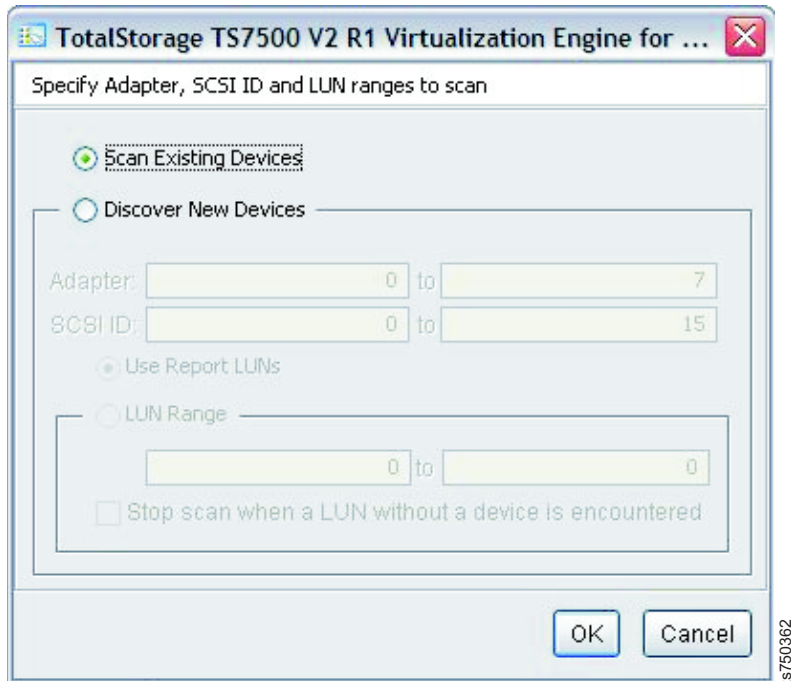

Figure 23. Scan existing devices
- \_\_\_ In the **Specify Adapter, SCSI ID and LUN ranges to scan** window (Figure 23 on page 35):